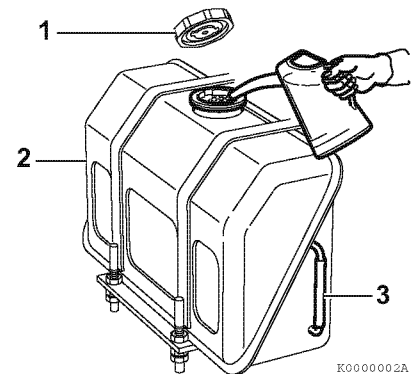

Figure 4-4
1. Clean the area around the fuel cap (**Figure 4-4, (1)**).
2. Remove the fuel cap (**Figure 4-4, (1)**) from the fuel tank (**Figure 4-4, (2)**).
3. Observe the fuel level sight gauge (**Figure 4-4, (3)**) and stop fueling when the gauge shows the fuel tank is full. Never overfill the fuel tank.
4. Replace the fuel cap (**Figure 4-4, (1)**) and hand tighten. Over-tightening the fuel cap will damage it.